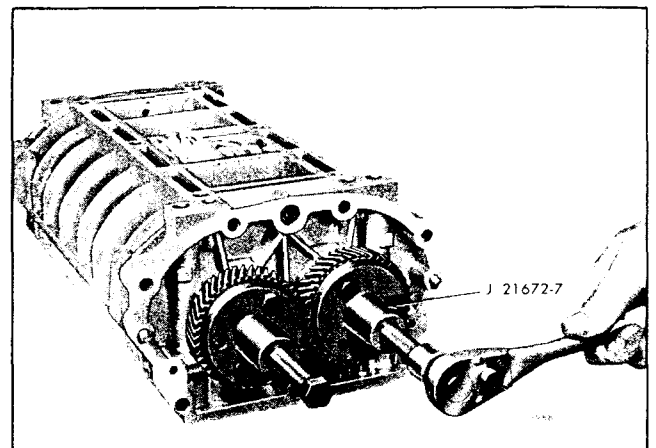

Fig. 5 - Removing Rotor Gears
2. Remove the two bolts and pilots (43) securing the blower rotor gears to the blower rotor shafts.
3. Remove the blower rotor gears with pullers J 21672-7 (Fig. 5). Both rotor gears must be pulled at the same time as follows:
and housing to prevent them from turning, turn the puller screws uniformly clockwise and pull the gears from the rotor shafts as shown in Fig. 5.